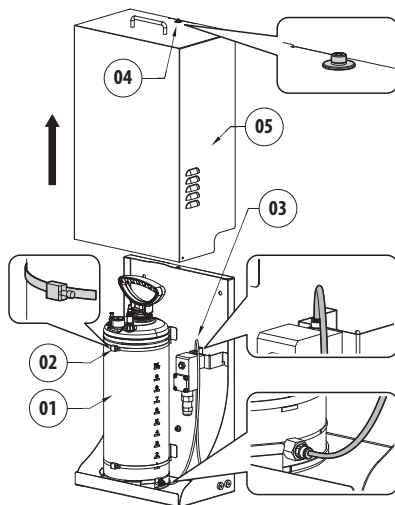

Fig. 4
**i** It is possible to install or service the pump without removing the tank (Fig. 4, page 10). To remove the tank (01), release the metal clamps (02) and disconnect the connecting pipe (03).